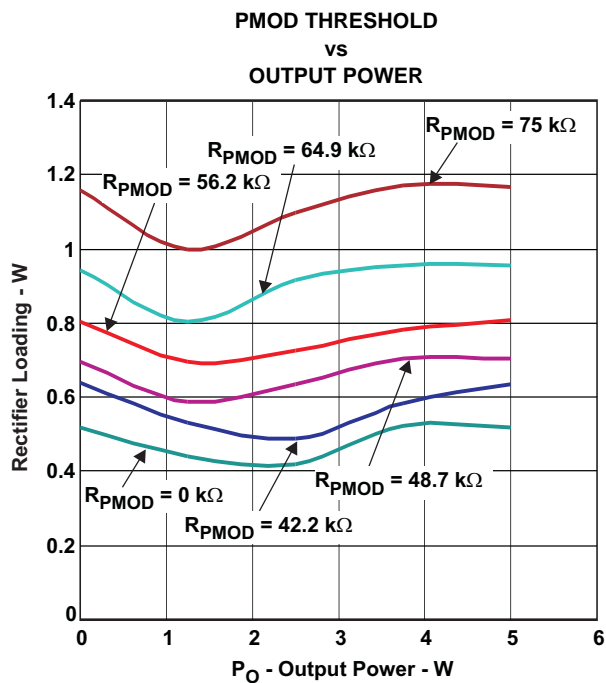

Figure 2.
(1) Threshold numbers are approximate. See Figure 2.
Note: The WPC Specification V1.0 does not define the requirements and thresholds for the PMOD feature. Hence, metal object detection may perform differently with different products. Therefore, the threshold setting is determined by the user. In most desktop wireless charger applications, a PMOD threshold setting of 0.8W has shown to provide acceptable results in stopping power transfer and preventing small metal objects like coins, pharmaceutical wraps, etc. from becoming dangerously hot when placed in the path of the wireless power transfer. Figure 2 depicts PMOD performance measured on a bq500210 EVM with a bq51013 EVM. The parasitic metal loss is emulated by loading the output of the rectifier in the bq51013 EVM.